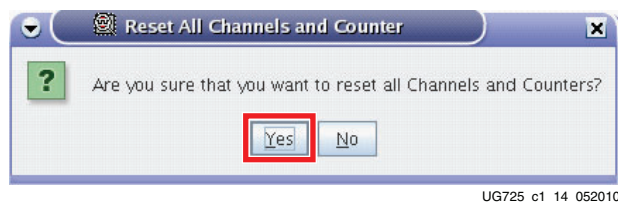

Figure 1-14: Reset Confirmation Dialog Box
5. When the confirmation dialog box opens, click **Yes** (Figure 1-14).